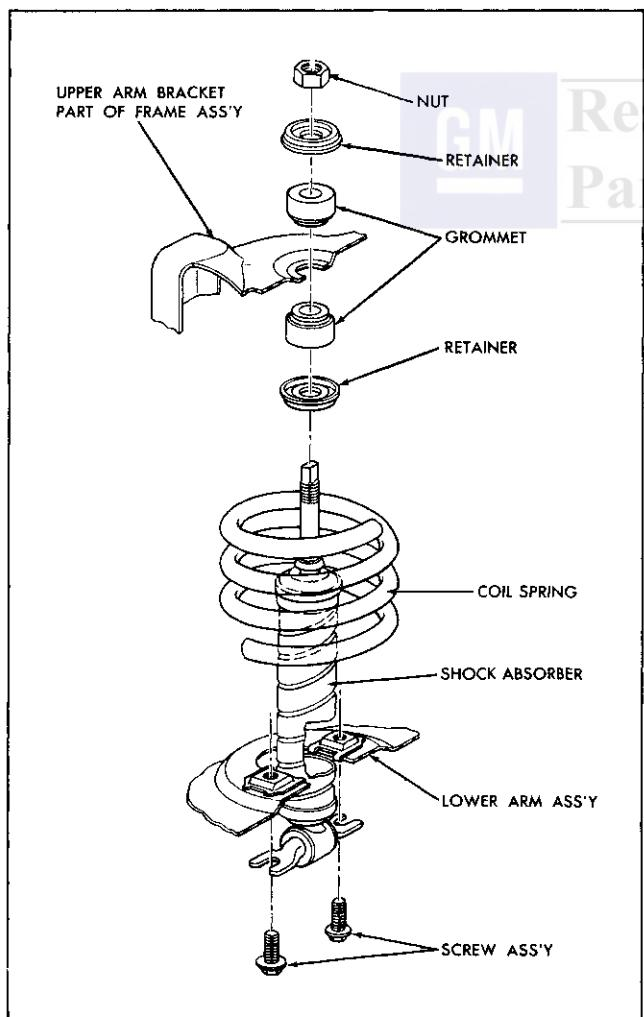

Fig. 3-7 Typical Shock Absorber Installation
1. Install new shock absorber by reversing the above procedure. Make sure all grommets and retainers are correctly installed (Fig. 3-7).